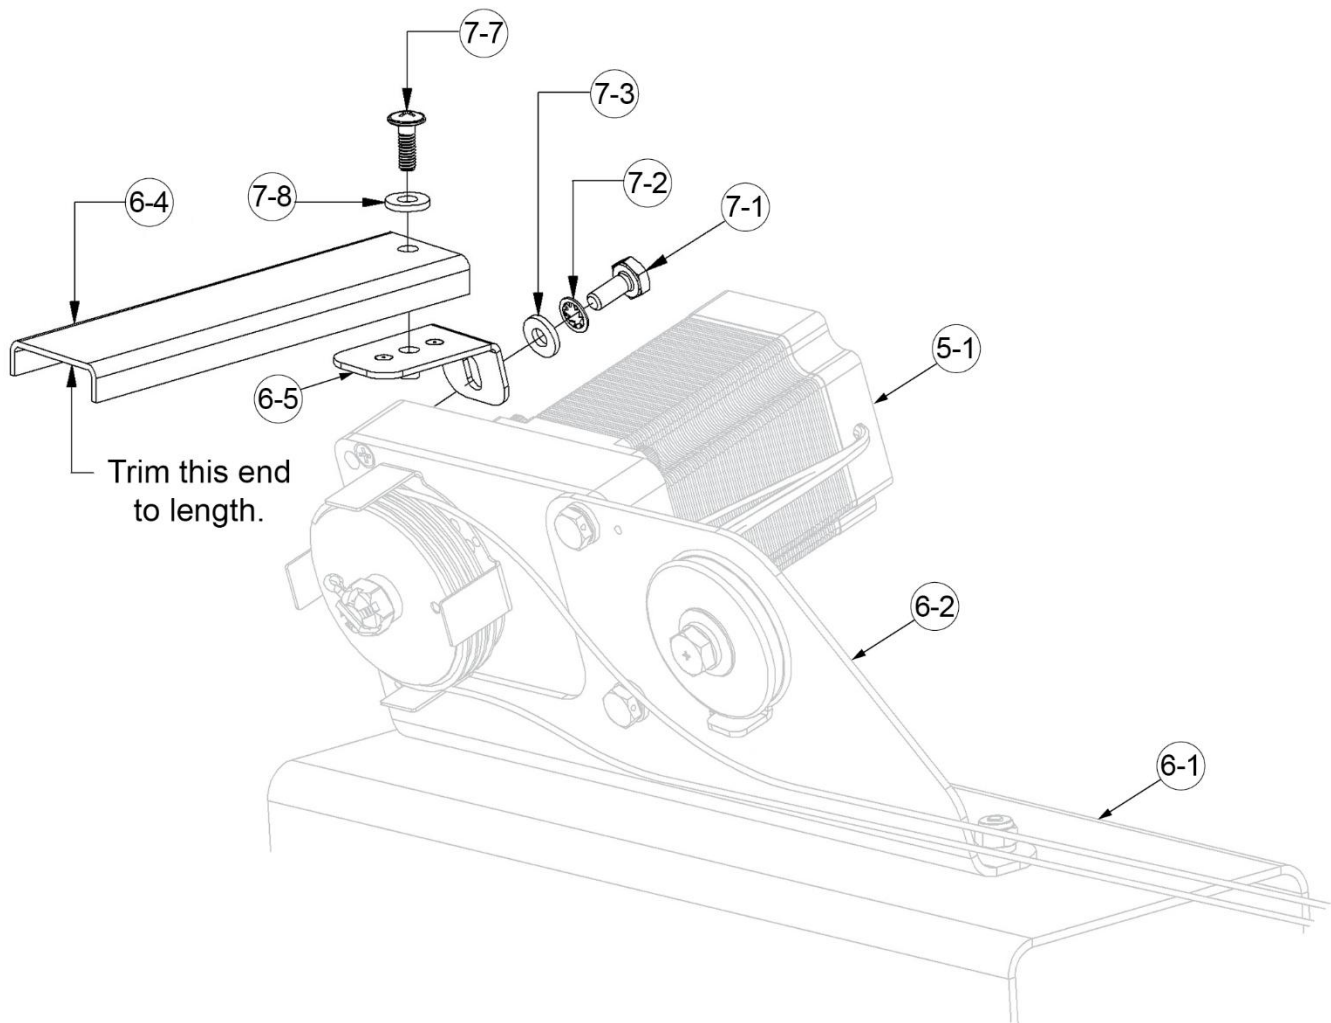
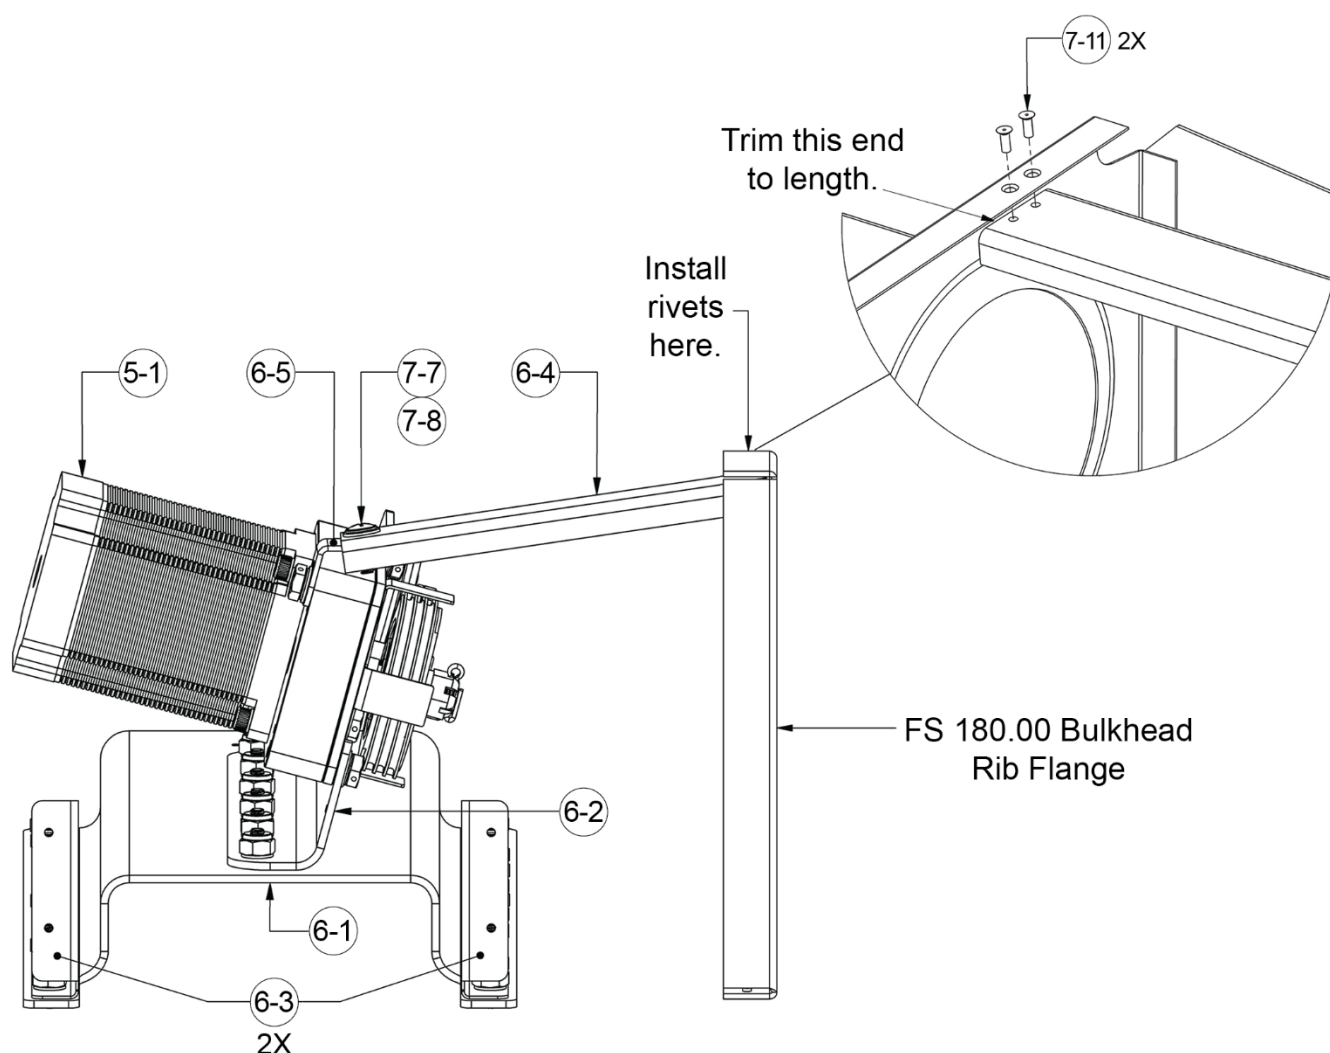

Figure 24: Attaching Short and Long Brace to Pitch Servo
Figure 25: Attaching Long Brace to Aircraft
24. Temporarily attach short brace to pitch servo, as shown in Figure 24.
25. Position long brace between FS180 bulkhead rib and short brace, as shown in Figure 25. This determines final length of long brace.
26. Mark and trim long sway brace (see Figure 24 and Figure 25).
27. Temporarily fasten long brace to short brace (see Figure 24).
28. Drill #40 holes through FS180 bulkhead rib and long brace (see Figure 25). Install a temporary fastener to hold brace in place.
30. Permanently attach long brace to FS180 bulkhead rib (see Figure 25).